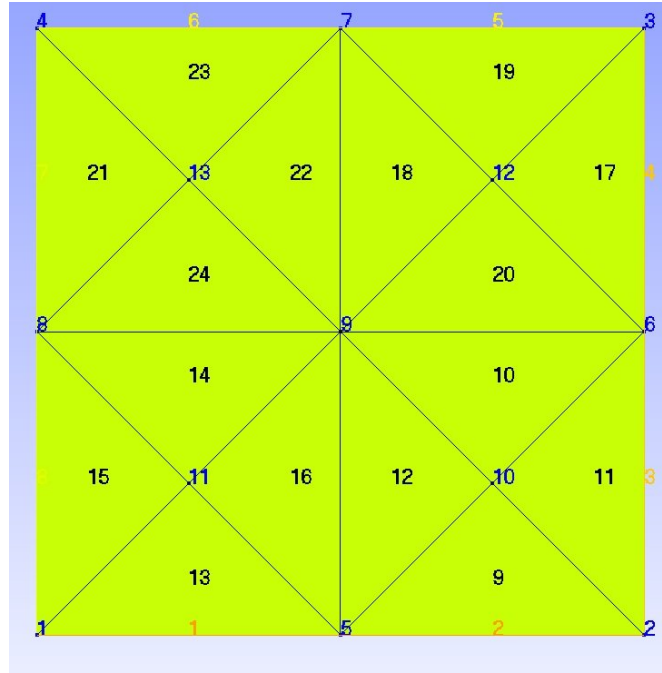

Figure 1: Example of a Coarse Mesh
Thanks to the script `square.geo` described in previous section we can obtain a simple mesh given by the Figure 1. Note that in practice we use meshes much finer. For simplicity reasons, we considered a mesh with very few elements to better understand the use of GMSH.
The description of various elements of the mesh begins after the keyword `$Elements`. First, we have the number of elements (26th line of the file `square.msh`). Then, there is a detailed description of all elements of the mesh. In our case we have two types of elements: segments belonging to the boundary **Gamma** and triangles of the domain **Omega**. Each element is described by several indices. We detail those which correspond to the element of line 31 (an edge of the boundary **Gamma**) and those corresponding to the element of line 47 (a triangle). These two elements are also presented in figure 1.
- *node1*, *node2*, *node3* : these indices refer to nodes that constitute our element. The segment of line 31st is formed by the two nodes number 3 and 7. The triangle of line 47 is formed by vertices number 13, 4 and 8. (See figure 1).